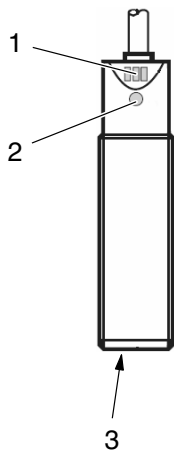

Fig. 7-9 P/N 398056
1. When the hopper is **empty**: Hold down the button (2, Fig. 7-9) with a dull object for no longer than 5 s. As soon as the green LED (1, Fig. 7-9) begins to flash, the level sensor is in calibration mode.
3. When the hopper is **full**: Hold down the button (2, Fig. 7-9) with a dull object for approx. 5 to 10 s. As soon as the green LED flashes slowly (1 Hz) for 5 s then more quickly (2 Hz), the level sensor is in calibration mode.